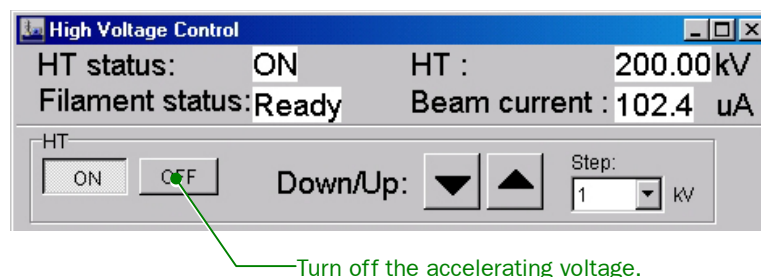

Fig. 5.18 High Voltage Control window(Turning off the accelerating voltage)
1. Click on HT **OFF** in the **High Voltage Control** window (☞ Fig. 5.18).